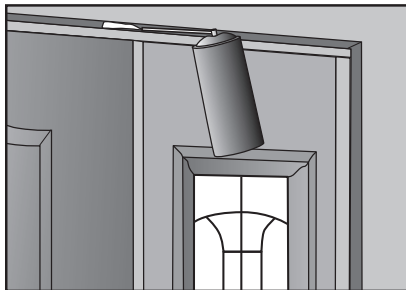

Fig. 32
- On the interior apply low pressure foam between the outside of jamb and the stud to seal any gaps (**Fig. 32**).